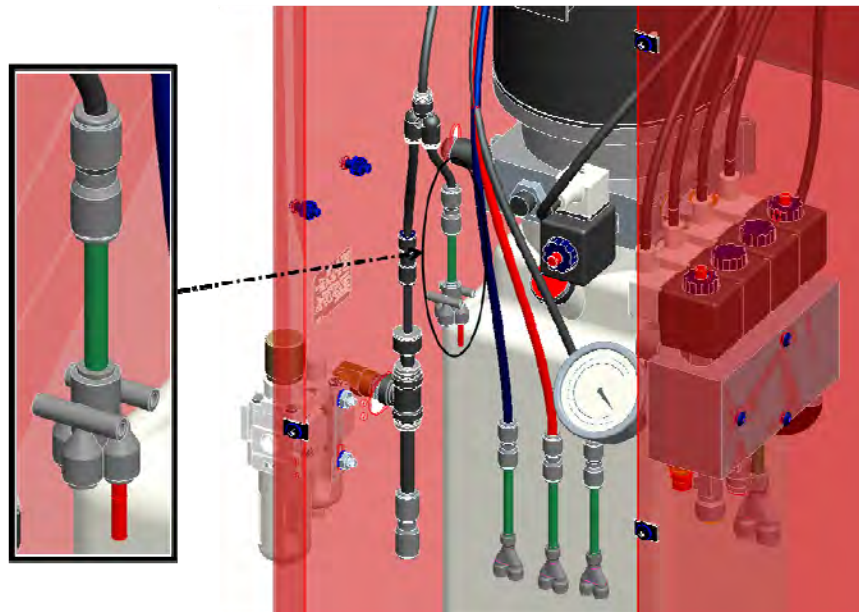

Figure 12 – Pneumatic Switch Supply Line Connections (Console)
1. Route two red Ø4mm air lines labeled with “EQ SUPPLY” and “LMT SUPPLY” from left side baseframe and one red Ø4mm air lines labeled with “EQ SUPPLY” from right side baseframe to console and connect them to the Double ‘Y’ fitting in console (**Figure 12**).